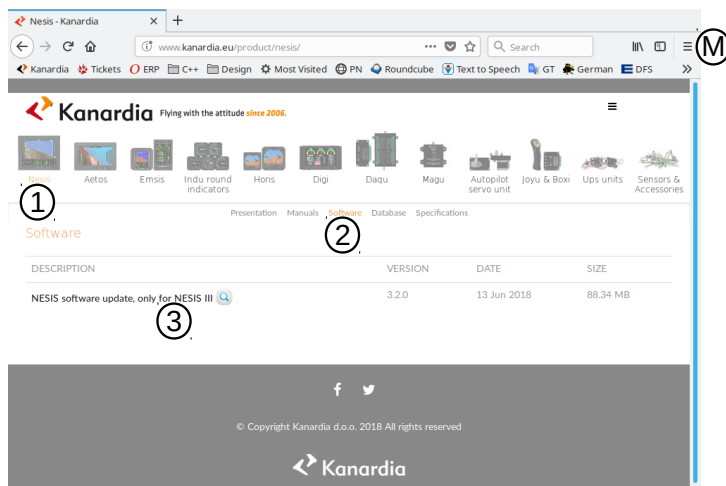

Figure 46: Illustration of the Aetos software download page. Usually only the latest update is available.
- ① Open the home page and select *Aetos* icon on the top. This leads to Aetos specific page.
- ② Select *Software* next. This opens a page with Aetos specific software. An example is shown in Figure 46.
- ③ Click on the link to start download process of selected software file.
1. Click on the \equiv menu symbol. See label (M) in Figure 46.